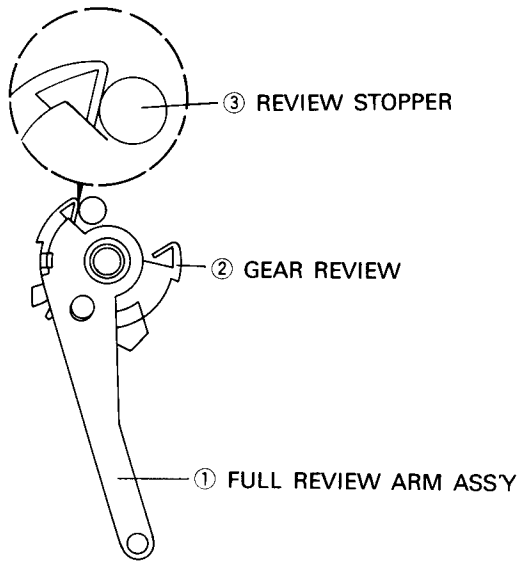

Fig. 43 Reassembly and Timing of Full Review Arm Ass'y
1. Assemble the full review arm ass'y ① so that the gear review ② is touching the review stopper ③ as shown in Fig. 43.